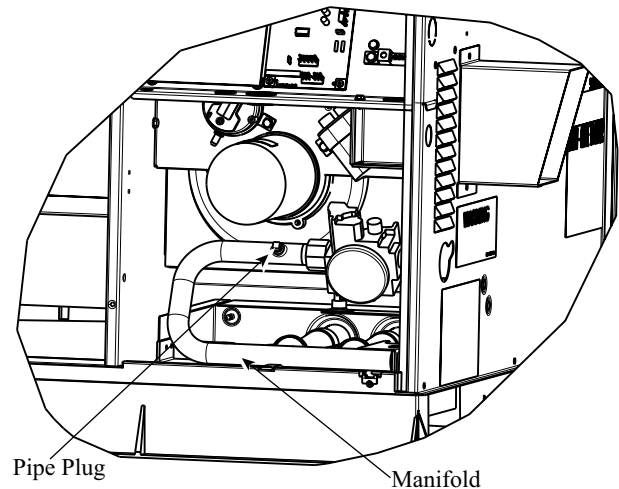

Fig. 11 – Burner Assembly
- Remove pipe plug on manifold (See Fig. 11) and connect manometer. Turn on gas supply to unit.
4. Turn off gas supply to unit. Remove manometer from pressure tap and replace pipe plug on gas valve. (See Fig. 11.) Turn on gas to unit and check for leaks.